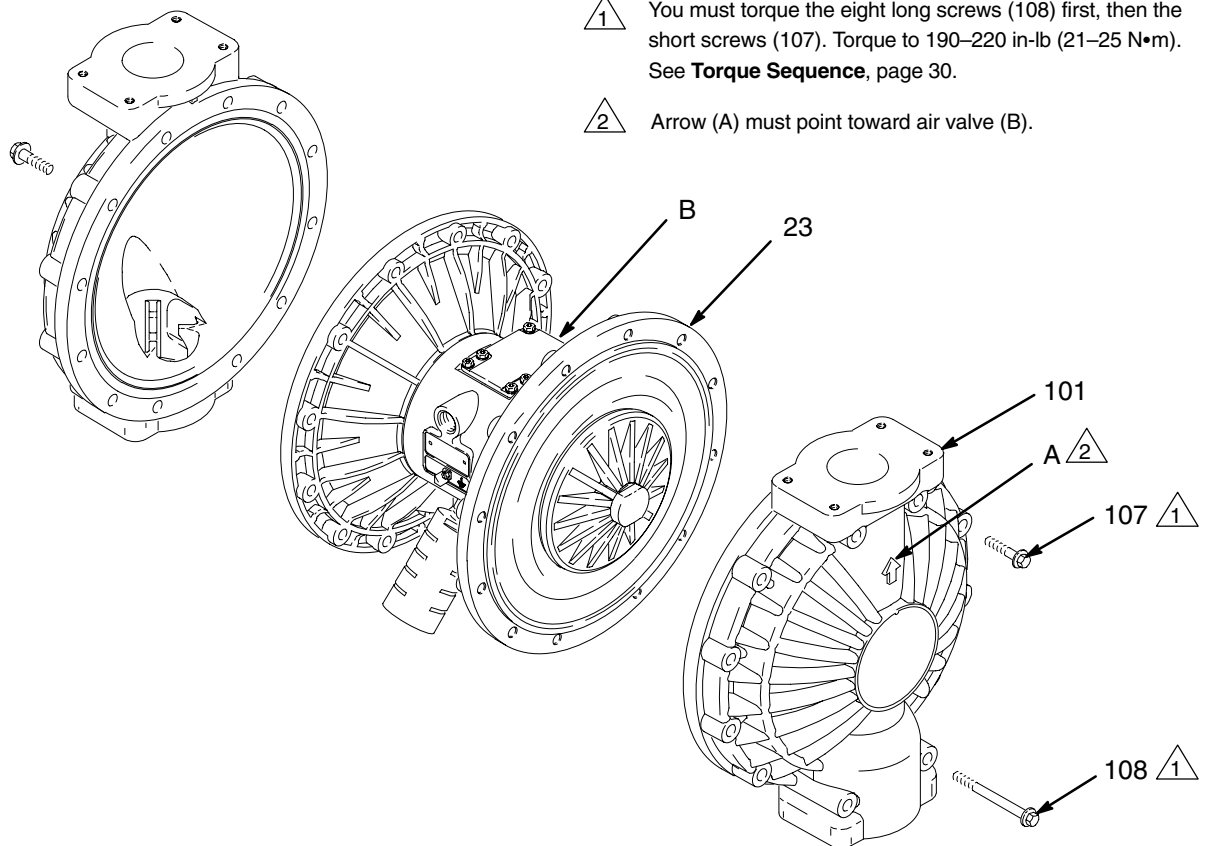

Fig. 12
3. Using 13 mm socket wrenches, remove the screws (107 and 108) holding the fluid covers (101) to the air covers (23). Pull the fluid covers (101) off the pump. See Fig. 12.
*For overmolded diaphragms:* Assemble the air side plate (104) onto the diaphragm (403). The wide, radiused side of the plate must face the diaphragm. Apply medium-strength (blue) Loctite or equivalent to the threads of the diaphragm assembly. Screw the assembly into the shaft (24) hand tight. **NOTE:** *Step 4 does not apply to pumps with overmolded diaphragms; go to step 5.*
4. Apply medium-strength (blue) Loctite® or equivalent to the threads of the fluid-side plates (105). Hold one of the outer plates (105) with a wrench, and torque the other outer plate to 20 to 25 ft-lb (27 to 34 N-m) at 100 rpm maximum. Do not over-torque.
5. Align the fluid covers (101) and the center housing (1) so the arrows (A) on the covers face the same direction as the air valve (B). Secure the covers with the screws (107 and 108), handtight. Install the longer screws (108) in the top and bottom holes of the covers. See Fig. 12.
6. First, torque the longer screws (108) oppositely and evenly to 190–220 in-lb (21–25 N•m), using a 13 mm socket wrench. Then torque the shorter screws (107). See **Torque Sequence**, page 30.